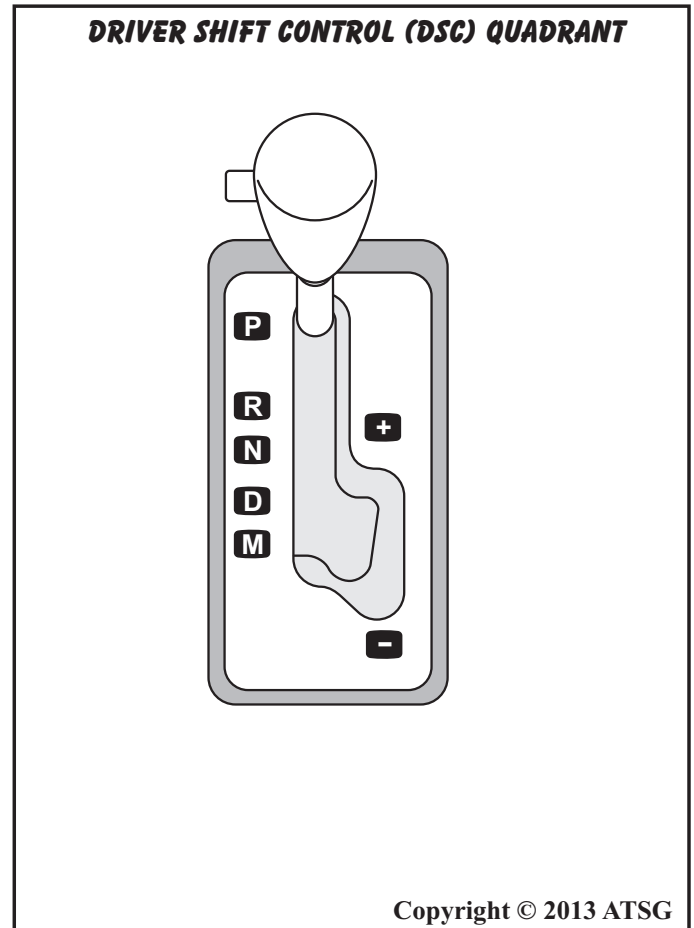

Figure 5
The transmission shift quadrants vary by model. There may be four to seven different positions shown on the shift quadrant. Refer to Figure 5, 6, and 7. The following are a couple of examples.
Some vehicles are equipped with Driver Shift Control (DSC) version of the selector system, as shown in Figure 5. This configuration allows the driver to manually shift between forward gears.
**M** - In the M (Manual) position, the driver may manually select the range of gears by tapping the selector lever towards "+" or "-" to cause an upshift or downshift, as shown in Figure 5. The transmission will shift up or down depending on the request that is made by tapping the selector lever. Refer to the appropriate owners manual for specific instructions.